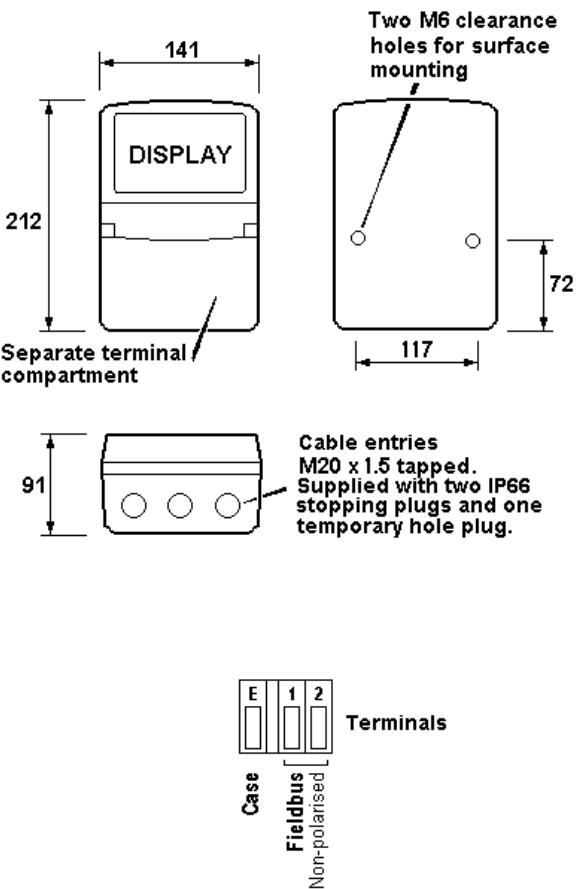

Fig 3 Dimensions and terminal connections
- d. Connect the field wiring to the terminals as shown in Fig 3.